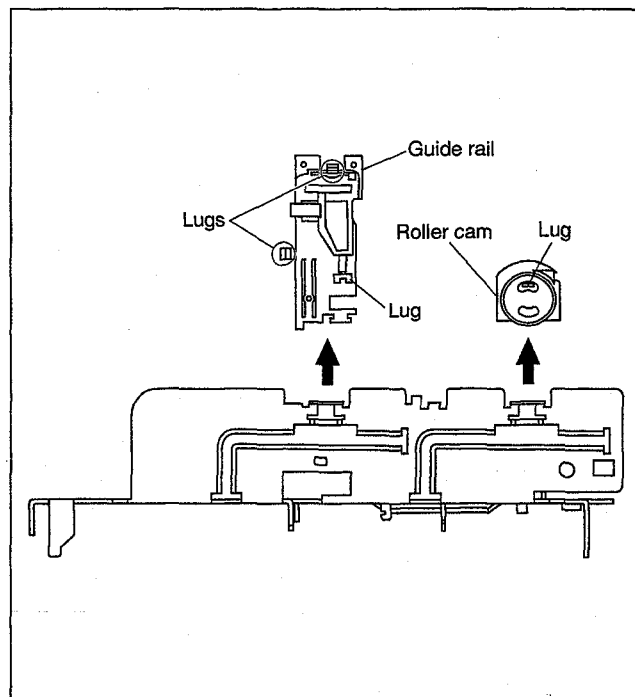

Fig. 2-2-2
- (1) Remove the guide rail and roller cam. (See Fig.2-2-2).